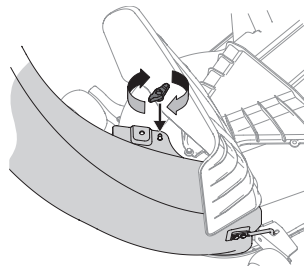

Figure 26
6. Secure the boot to the cutting deck using a wing knob (720-04122) included in hardware pack 689-01419. Refer to Figure 26.